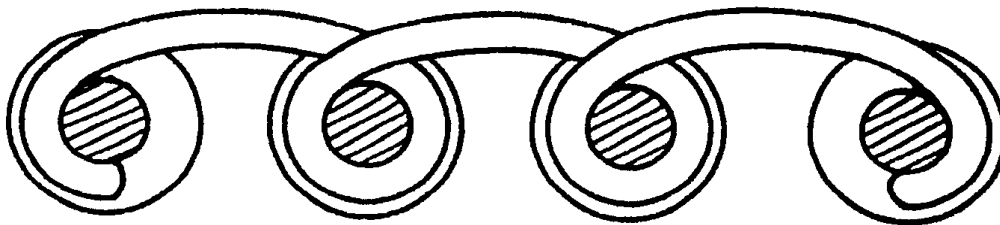

Figure 9-4. Continuous Run Wrapping--Turret Terminals
3. **Continuous Run Wrapping.** If three or more terminals in a row are to be connected, a solid bus wire jumper may be continued from terminal to terminal as shown in Figure 9-4. The wrap to the first and last terminal of the series shall conform to paragraph 9.2-1A or paragraph 9.2-1B depending on the conductor size.